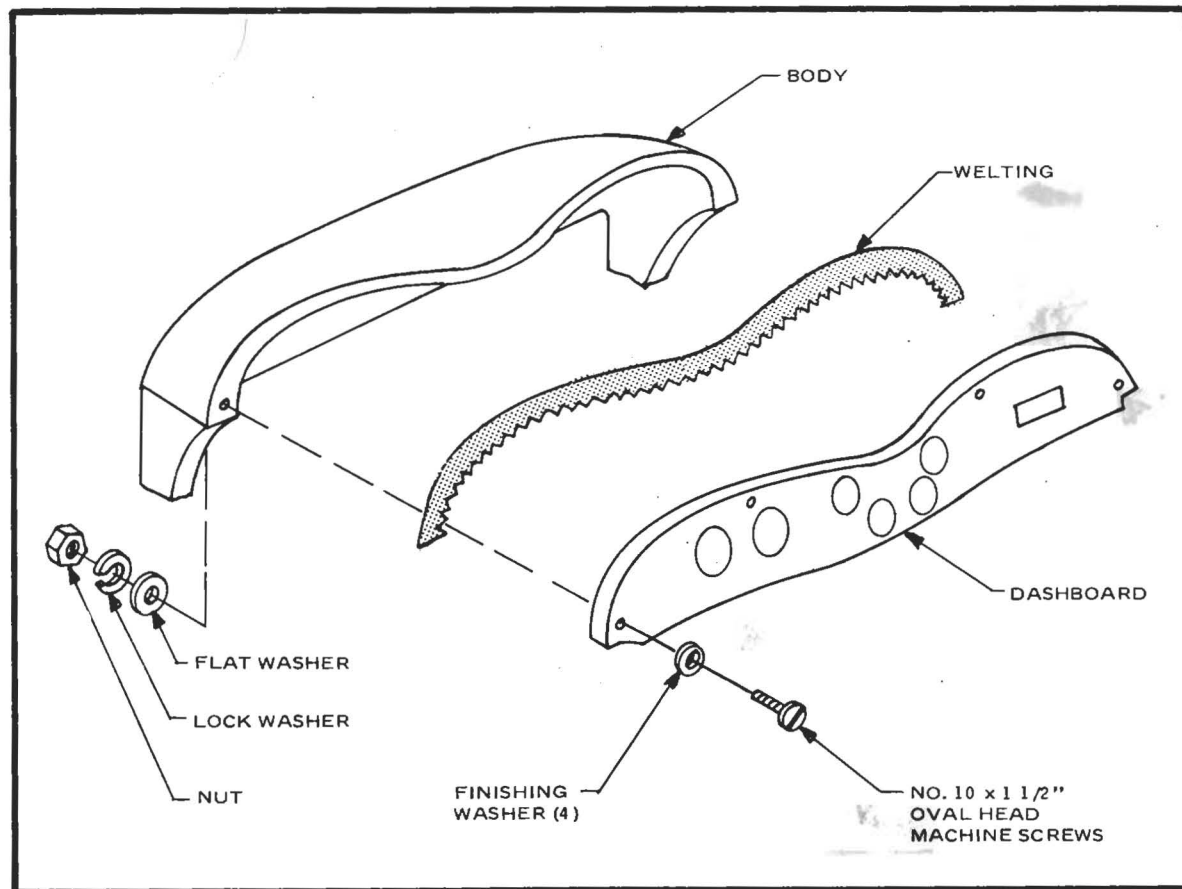

Figure 43
- ☐ Align the dashboard with the body. Drill 4 holes, 3/16", approximately at the locations shown. (Figure 43) Bolt in place using No. 10 x 1 1/2" machine screws with finishing washer, flat washer,